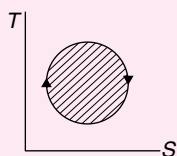

Figure 2
- (D) Figures 2 and 3
- (A) 1
- (B) 2
- (C) 3
- (D) 4